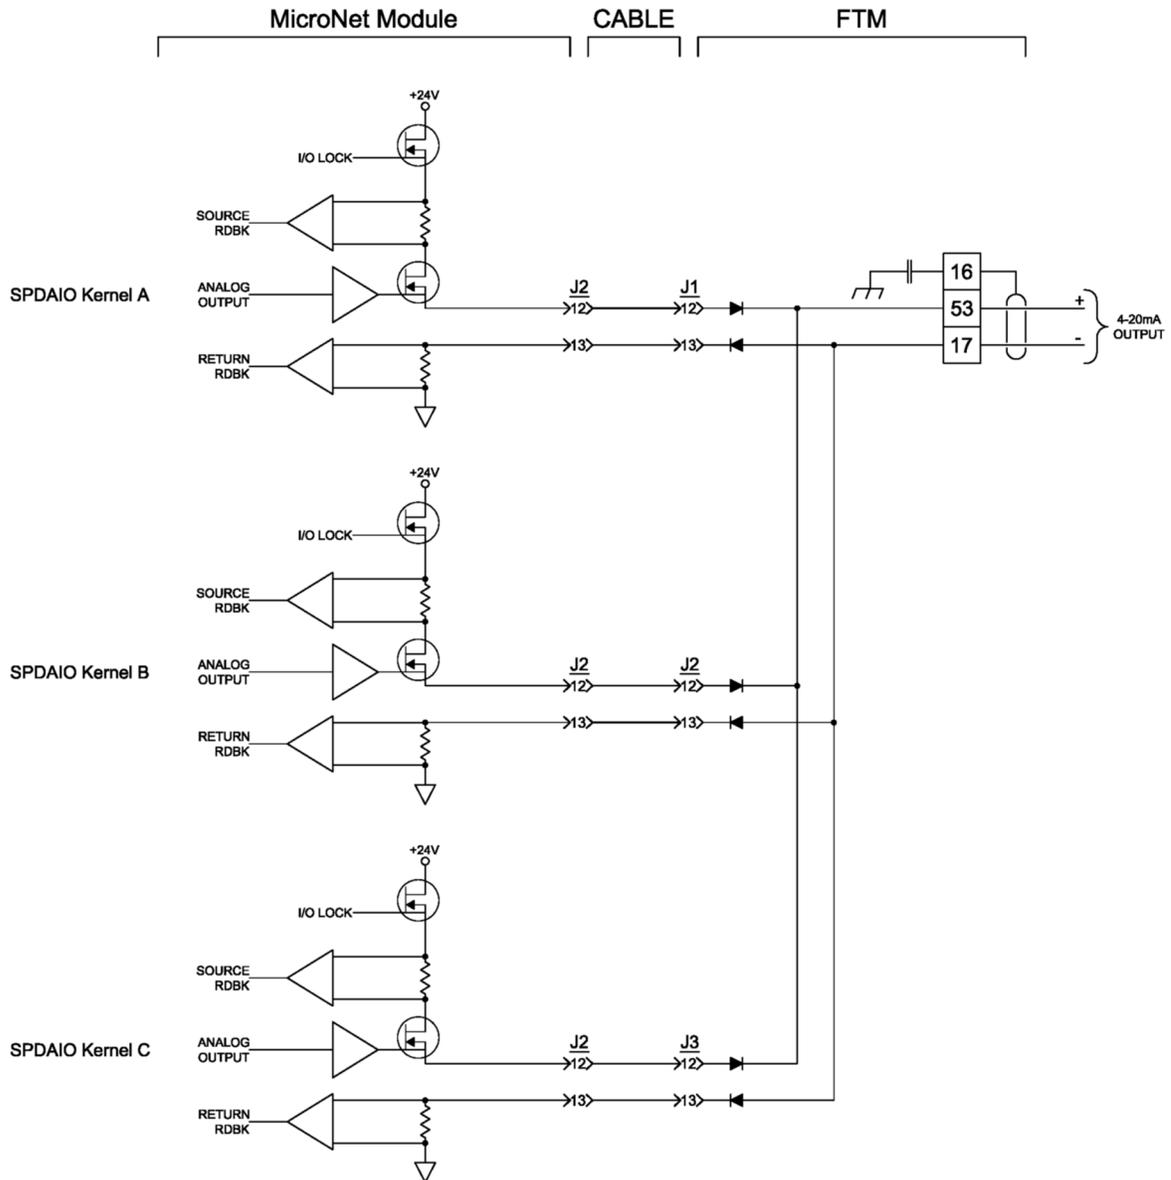

Figure 11-7. Example Analog Output Wiring Diagram
Latent fault detection (LFD) is not usable with all applications or circuits. The control's LFD logic can only work with circuits using voltages between 18–32 Vdc, 100–150 Vdc, or 88–132 Vac. For LFD to work, a small leakage current is passed through the circuit's load. See Figures 11-7, 11-8, and 11-9. Depending on the size of the load, the leakage current may be enough to cause a load to be on or active, when a relay contact is open. In this case, the individual relay's LFD logic may be disabled, eliminating the leakage current.
2. Use the graph below (Figures 11-7, 11-8, and 11-9) which corresponds to the circuit's voltage level to determine if the voltage developed across the load (due to the leakage current) is lower than the load's drop-out voltage level.